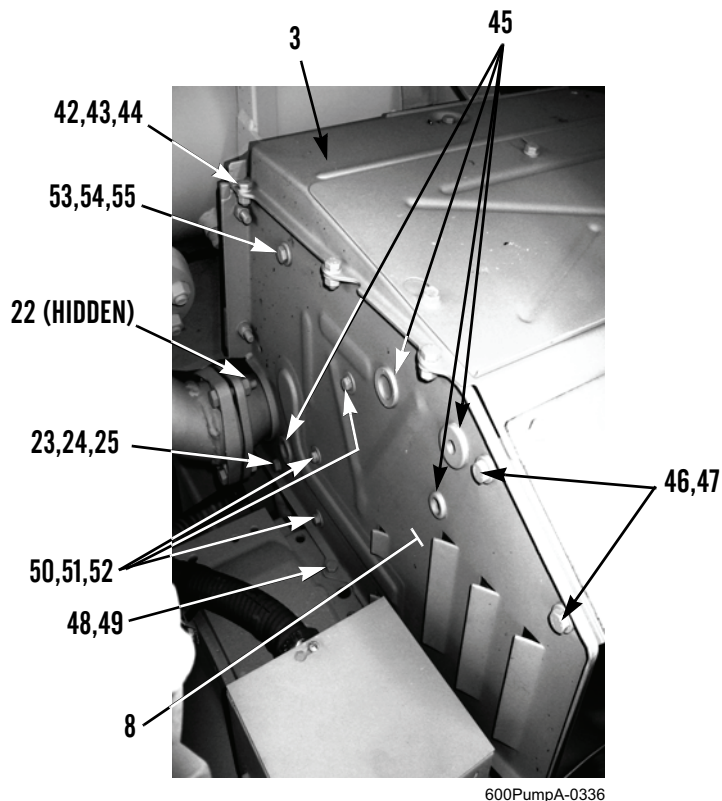

Figure 6. Rear Air Duct Wall.
3. Remove three bolts (Figure 6, Item 42), nuts (Figure 6, Item 43), and six washers (Figure 6, Item 44) from rear air duct wall (Figure 6, Item 8) and upper cooling air guide plate (Figure 6, Item 3).
4. Remove two bolts (Figure 6, Item 46) and washers (Figure 6, Item 47) from rear air duct wall (Figure 6, Item 8) and oil cooler.
5. Remove bolt (Figure 6, Item 53), washer (Figure 6, Item 54), and spacer (Figure 6, Item 55) from rear air duct wall (Figure 6, Item 8) and intake manifold.
6. Remove two bolts (Figure 6, Item 23), nuts (Figure 6, Item 24), and four washers (Figure 6, Item 25) from rear air duct wall (Figure 6, Item 8) and lower left cooling air guide plate (Figure 6, Item 22).
7. Remove three bolts (Figure 6, Item 50), lockwashers (Figure 6, Item 51), and washers (Figure 6, Item 52) from rear air duct wall (Figure 6, Item 8). Discard lockwashers.
8. Remove bolt (Figure 6, Item 48), washer (Figure 6, Item 49), and rear air duct wall (Figure 6, Item 8) from engine.
9. If necessary, remove four grommets (Figure 6, Item 45) from rear air duct wall (Figure 6, Item 8).
1. If removed, install four grommets (Figure 6, Item 45) in rear air duct wall (Figure 6, Item 8).
2. Install rear air duct wall (Figure 6, Item 8), washer (Figure 6, Item 49), and bolt (Figure 6, Item 48) on engine.
3. Install three washers (Figure 6, Item 52), new lockwashers (Figure 6, Item 51), and bolts (Figure 6, Item 50) on rear air duct wall (Figure 6, Item 8).
4. Install four washers (Figure 6, Item 25), two bolts (Figure 6, Item 23), and nuts (Figure 6, Item 24) on rear air duct wall (Figure 6, Item 8) and lower left cooling air guide plate (Figure 6, Item 22).
5. Install spacer (Figure 6, Item 55), washer (Figure 6, Item 54), and bolt (Figure 6, Item 53) on rear air duct wall (Figure 6, Item 8) and intake manifold.
6. Install two washers (Figure 6, Item 47) and bolts (Figure 6, Item 46) on rear air duct wall (Figure 6, Item 8) and oil cooler.
7. Install six washers (Figure 6, Item 44), three bolts (Figure 6, Item 42), and nuts (Figure 6, Item 43) on rear air duct wall (Figure 6, Item 8) and upper cooling air guide plate (Figure 6, Item 3).